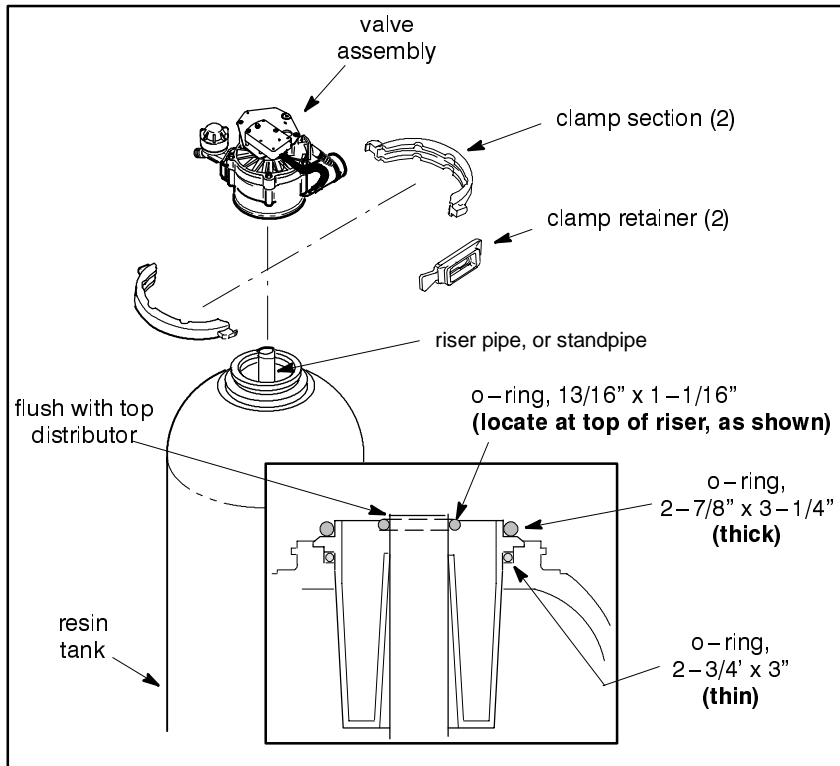

Figure 4
10. Remove retainer clips and clamps from around the tank neck. Set aside. **Figure 4.**
11. Remove valve from resin tank and set aside. **Figure 4.**
14. With all o-rings (lubricated with silicone grease) and the top distributor in place in the top of the tank, check the riser pipe length. It should be about even with the top edge of the top distributor. **Figure 4.**
15. Be sure all parts are clean and free of resin beads and other debris, including the bottom of the valve assembly. Lightly lubricate with silicone grease the o-ring sealing surface in the inside of the valve port, at the bottom of the valve. **Figure 4.**
16. Locate the distributor o-ring at the very top of the riser pipe as shown in **Figure 4.** DO NOT SLIDE IT DOWN TO REST AGAINST THE TOP DISTRIBUTOR.
17. Carefully lower the valve assembly onto the tank, aligning it with the riser pipe, and work over the o-ring and onto the adaptor. Then clamp in place. **Figure 4.**